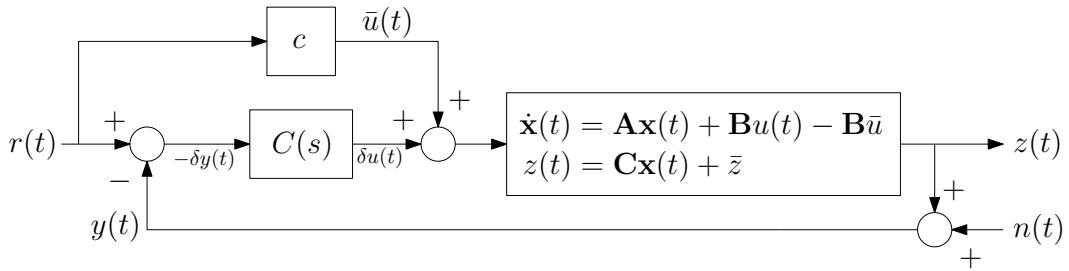

Figure 4: Feedback loop involving an affine plant.
- The fact the pump “get stuck” when the voltage is below 1.5 (V) will be ignored. Just assume the pump starts moving for any non-zero voltage input.
- The maximum input voltage is 5 (V). You can use the DC gain of  $P(s)$  to find the maximum water-flow rate. In reality, the max voltage can be slightly exceeded, but only for very short durations.
- Within the sample code is a means to simulate the plant, which is *not* linear, and the controller, which *is* linear. The simulation realizes the interconnection shown in Figure 4.